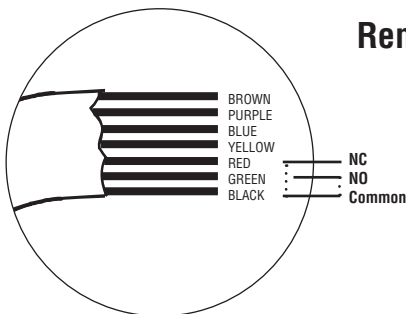

**Fig. 2 – Power Connections**
**To Ensure Instant Release** All switching devices must be wired in between the DC power source and the positive terminal of the lock in Fig 2.